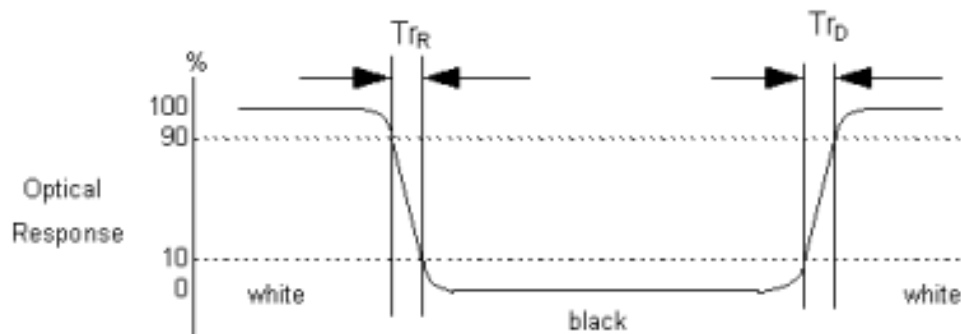

Fig.4-3 Response time
4. Response time is the time required for the display to transition from to black (Rise Time, Tr_R) and from black to white (Decay Time, Tr_D). For additional information see FIG 4-3.